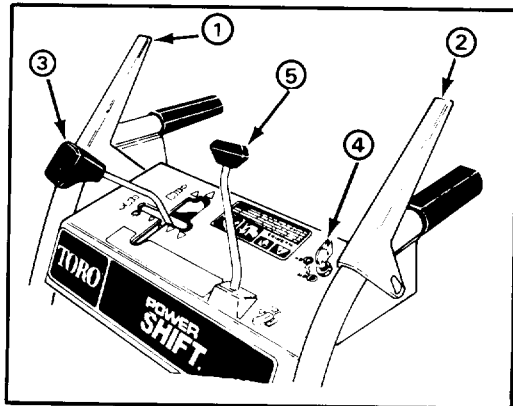

Figure 9.
Auger/Impeller Control (Fig. 9) — Control has two positions: ENGAGE and DISENGAGE. To engage auger and impeller, compress lever against right handle grip. To disengage, release lever.
Traction Drive Control (Fig. 9) — To engage traction or activate power shift system, lever must be compressed against left handle grip. To stop traction, release lever.
Speed Shift Control (Fig. 9) — The control has four speeds forward and two reverse and also controls power shifting of wheels. To select speeds, move shift control to desired position.
Auger Lock-Up (Fig. 9) — When auger/impeller control and traction drive control are both compressed, the traction control locks the auger/impeller control down. Releasing the traction control releases the auger/impeller.
Discharge Chute Control (Fig. 9) — Rotate discharge chute control clockwise to move discharge chute to the right and counterclockwise to move chute to the left.
Ignition Switch (Fig. 9) — Switch has two positions: ON and OFF. Rotate key to ON position before starting engine. To stop engine, rotate key to OFF.
1. Move speed selector (Fig. 9) to N-neutral — and throttle midway between SLOW and FAST.
4. Rotate ignition key to ON (Fig. 9).
1. Release traction and auger/impeller drive controls (Fig. 9).